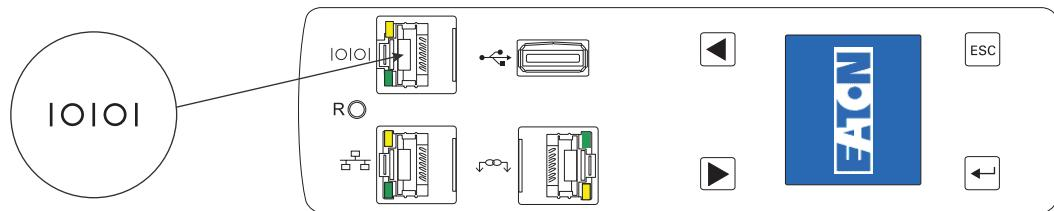

Figure 28. Connecting to a Computer Serial Port (0U Models)
3. Connect the RJ-45 end of the cable to the RS-232 connector on the front panel of your ePDU model (see Figure 28). Connect the DB9 end of the cable to the serial connector on the computer.